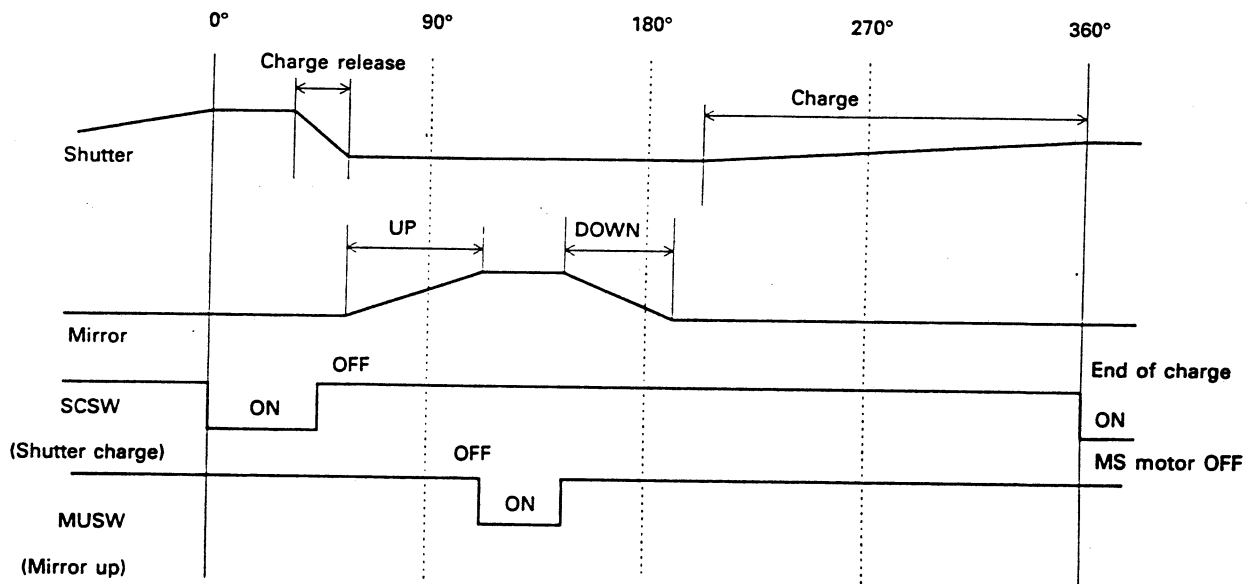

Fig. 6
- Drive cam timing chart (Fig. 6)